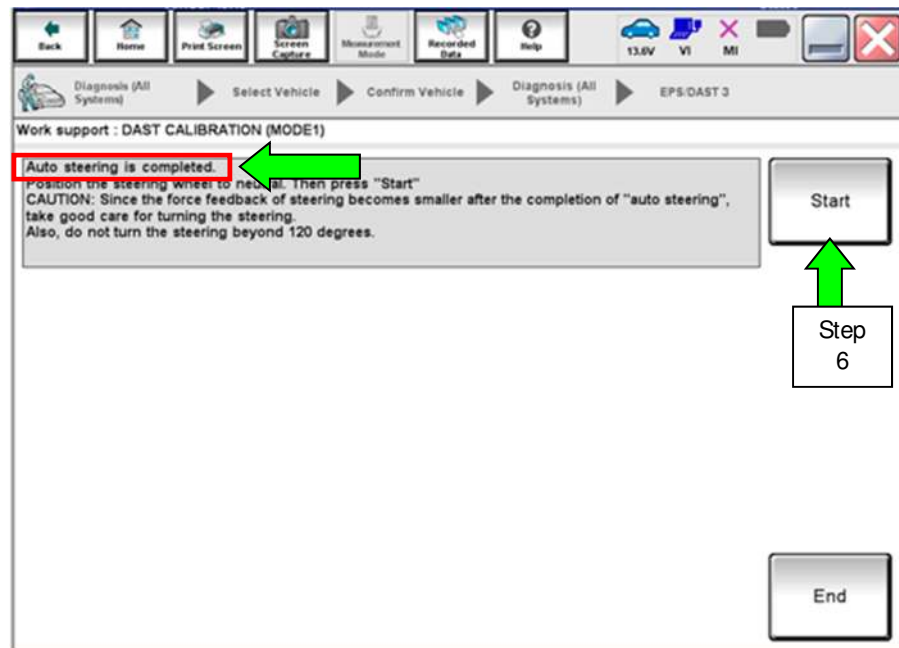

Figure 2
- When Auto steering has completed, center the steering wheel to the neutral (straight ahead) position, and then select Start again (see Figure 2).